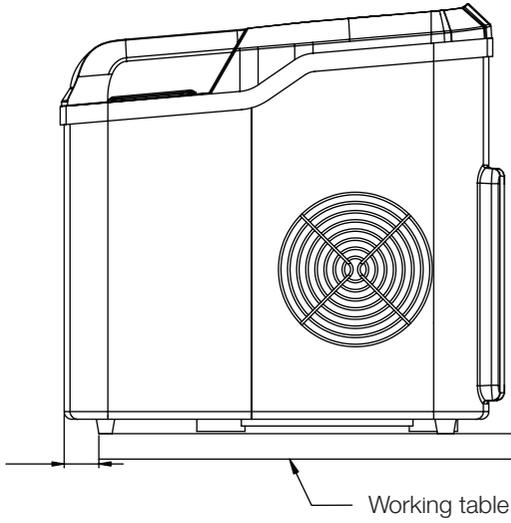
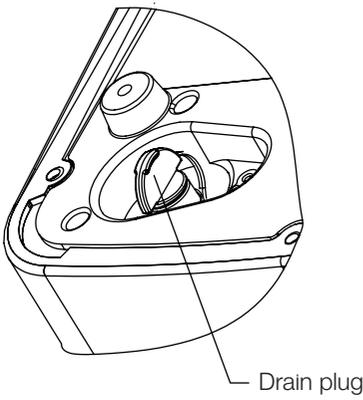
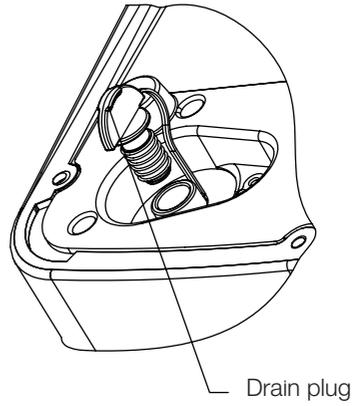

Fig.1
Fig.2
Fig.3
- Move the appliance forward to a place 60mm away from the working table and open the drain plug to drain out excess water (see Fig.1, Fig.2 and Fig.3).